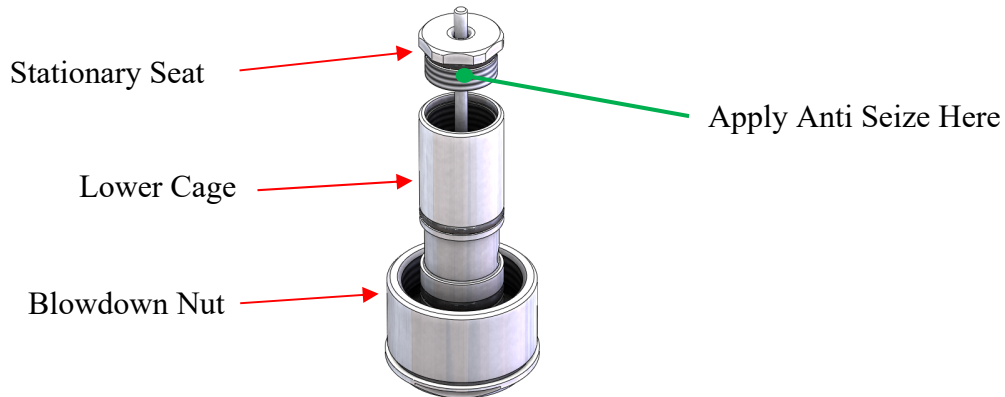

Figure 53: Lower Assembly
33. Lightly apply a small amount of anti-seize to the threads of the stationary seat. See Figure 53.